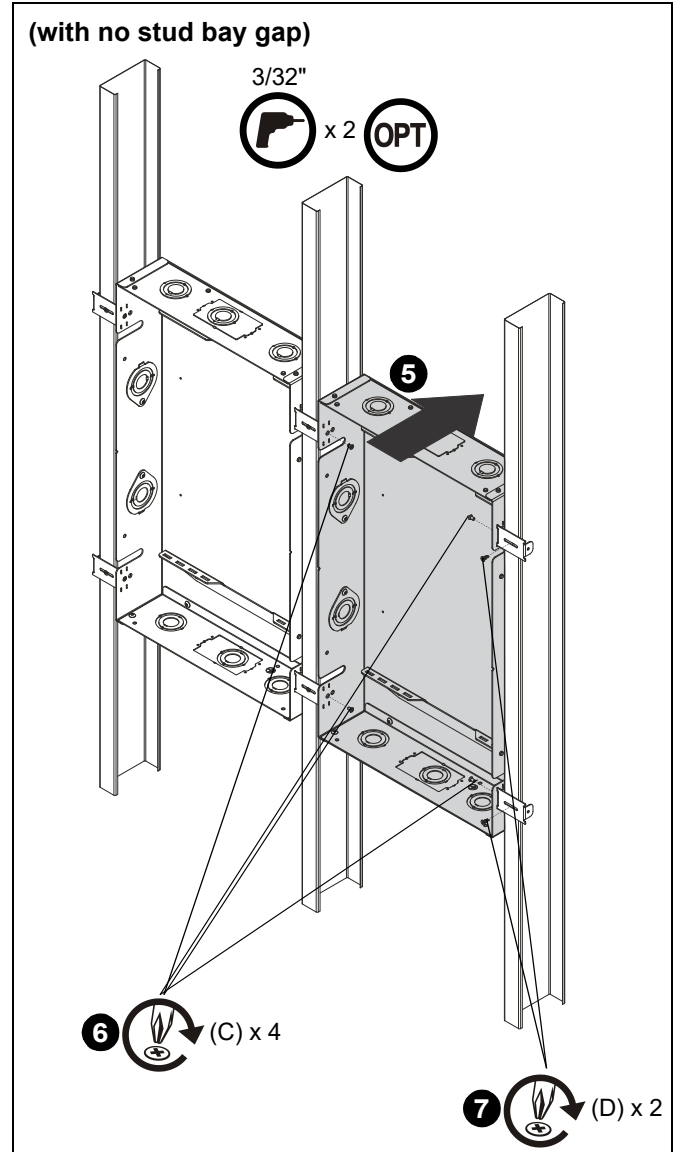

Figure 6
- If mounting with no gap, position second box (A) level with first box. (See Figure 6)
- Use four #6 x 1/4" Phillips flathead screws (C) to secure box to four stub tabs (B). (See Figure 6)
- Use two #6 x 3/8" Phillips tapping screws (D) to secure two stud tabs (B) to studs. (See Figure 6)
NOTE: Two 3/32" pilot holes may be drilled into studs prior to installation of screws if desired. (See Figure 6)